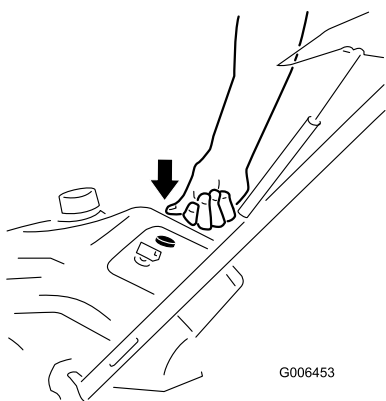

Figure 15
3. Firmly push in the primer with your thumb as indicated by the chart below, holding in the primer for a second before releasing it each time (Figure 15).